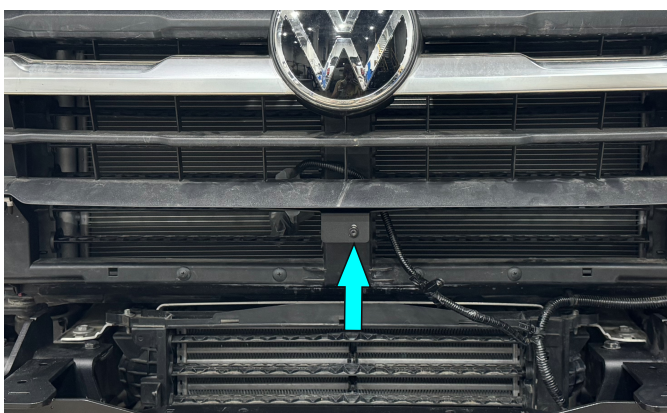

Fig.40
40. Secure central grille bracket (item 33) using bolt M6x20, washer M6 (items A2, H1) (fig.40).